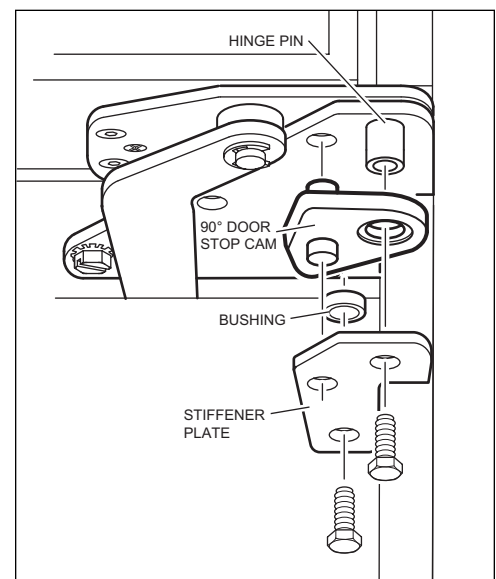

Figure 2-15. 90° Stop Cam
- a With door closed, extract bolts, stiffener plate and bushing from lower cabinet hinge (See Figure 2-15).
- b. Place door stop cam up over hinge pin, making sure stub on cam fits into hole in lower cabinet hinge (See Figure 2-15).
- c. Reinstall bushing, stiffener plate and bolts onto lower cabinet hinge (See Figure 2-15).